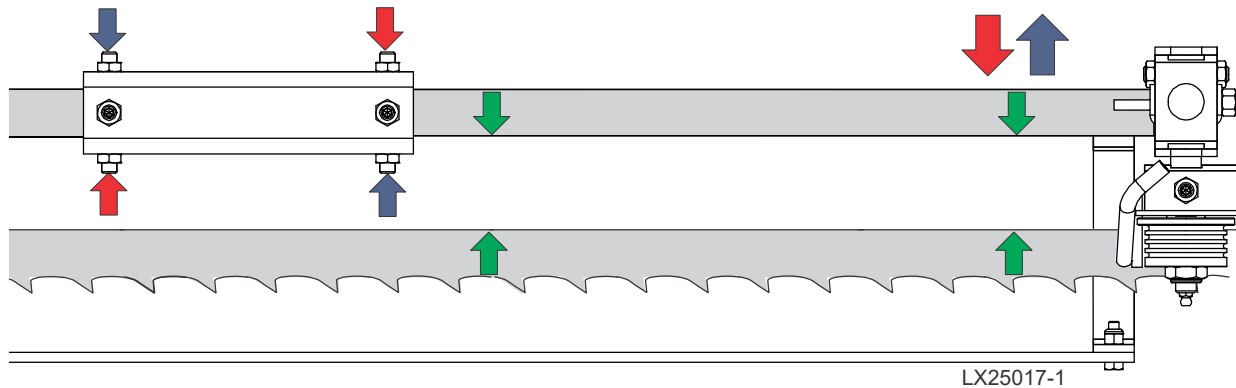

FIG. 8-3
See Figure 8-3.
1. Loosen jam nuts on the front inside screw and the rear outside screw (blue arrows in Figure 8-3).
1. Loosen jam nuts on the front outside screw and the rear inside screw (red arrows in Figure 8-3).